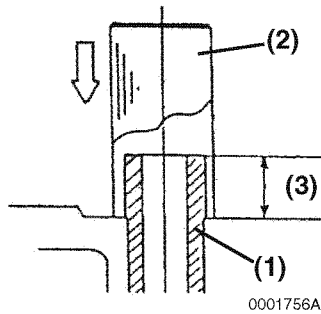

Figure 6-29
3. Finish installing the valve guides (Figure 6-29, (1)) into the cylinder head to the proper height (Figure 6-29, (3)) using the valve guide installation tool (Figure 6-29, (2)). See Valve Guide Projection specification starting on page 6-5.